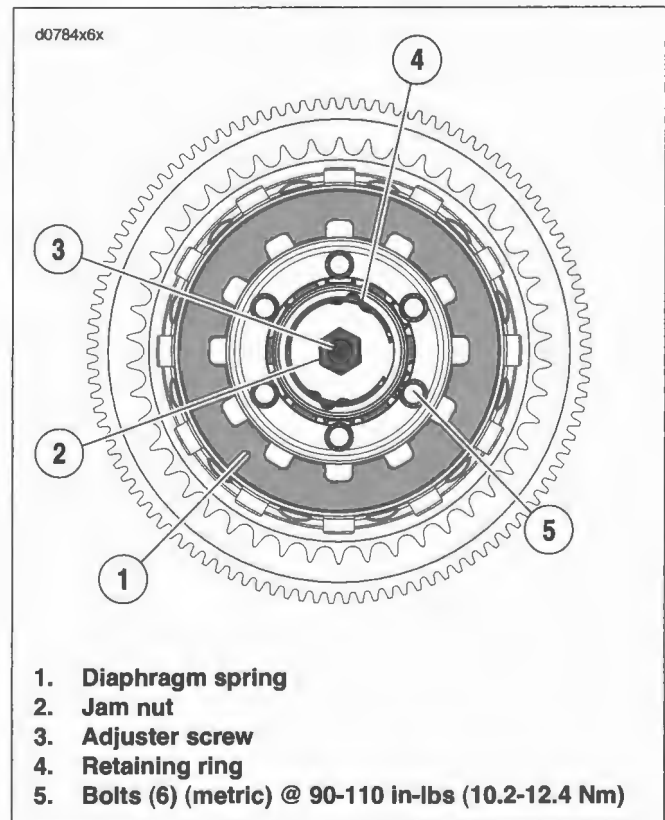

Figure 6-31. Assembled Clutch
12. See Figure 6-31. Seat diaphragm spring (1) in recess of pressure plate with the concave side down.
14. Install six bolts (5) (metric) to secure diaphragm spring retainer to clutch hub. Alternately tighten bolts to 90-110 in-lbs (10.2-12.4 Nm).